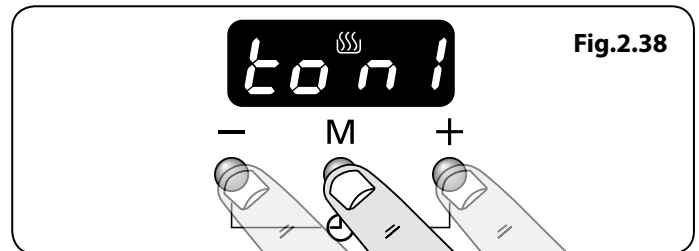

Fig.2.38
1. Press the the [+] and [-] buttons simultaneously, then the mode [M] button. The display will show (ton1,2 or 3) (Fig.2.38).